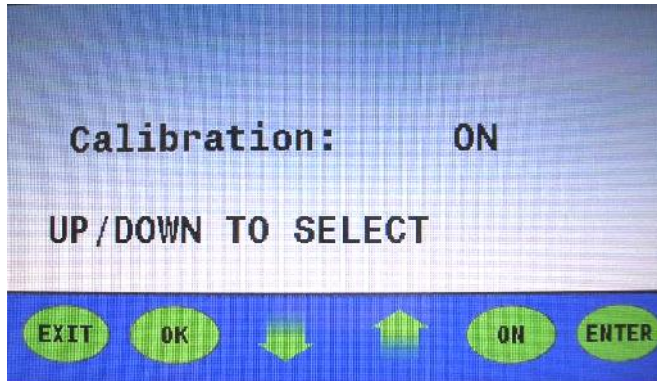

Figure 3
7. The display will read "CALIBRATION: ON" (**Figure 3**)